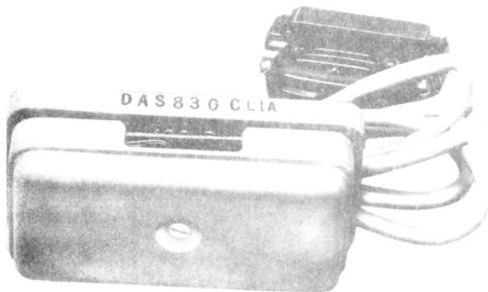
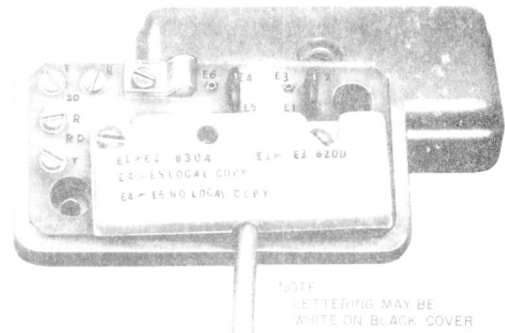

Fig. 8—DAS 830C-L1A
Fig. 9—DAS 830C-L1A Terminal Board
2.08 DAS 830C-L1A (Fig. 8) consists of a printed circuit board mounted on a 168D-49 backboard equipped with a 101A-49 cover. The terminal board (Fig. 9) provides option jacks and screw terminals for connections to terminal equipment.